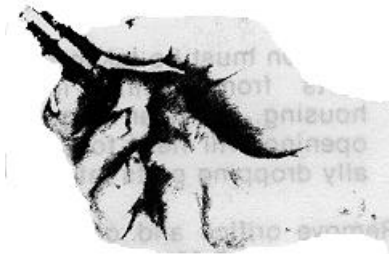

FIGURE 7-52
- a. Prior to installation, inspect o-rings for damage (see figure 7-52).